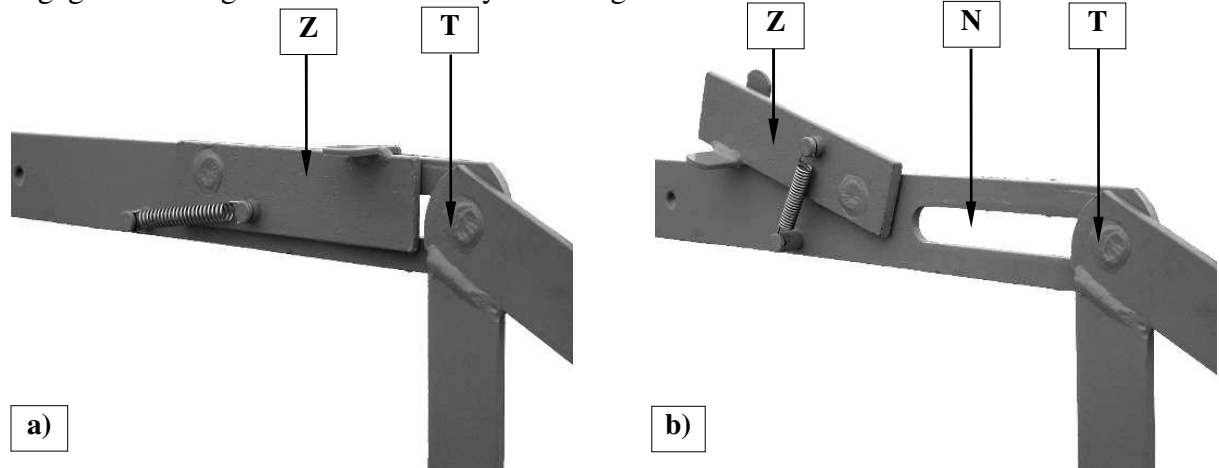

Fig. 22. Positions of locking pawl "Z": a) transport, b) working
- ❑ set pawl Z (Fig. 22) in transport position.